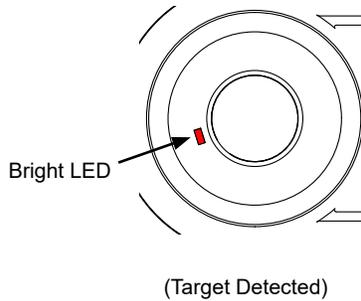

Figure 8
- When the sensor detects an object, the Red LED will become more bright. See **Figure 8**. Use this LED to confirm sensor operation